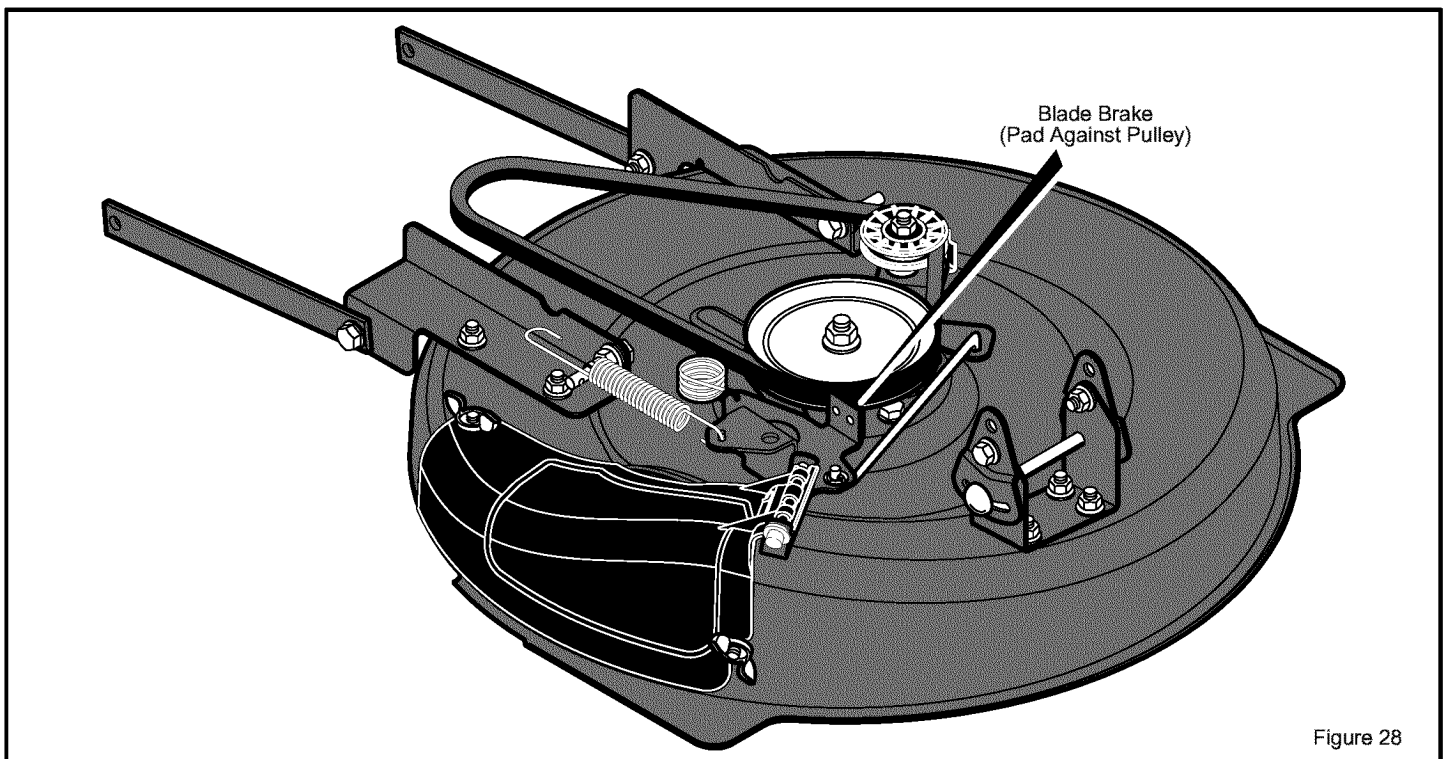

Figure 28
7. Check the operation of the **blade brake**. Rotate the pulley with your hand. Make sure the **brake pad** is pressed tightly against the pulley (Figure 28).